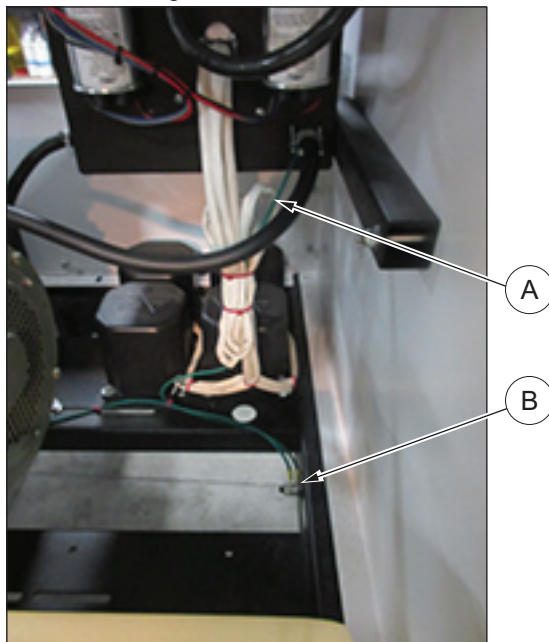

Figure 12 - Ground Wire to Chassis Ground Stud
5. See Figure 12. Disconnect both wires from ground stud in unit chassis. Retain hardware.
- Ground wire: Route to ground stud in unit chassis (Figure 12)
- c. Route black/white wire with blue ring terminal to ground stud in unit chassis (Figure 12).